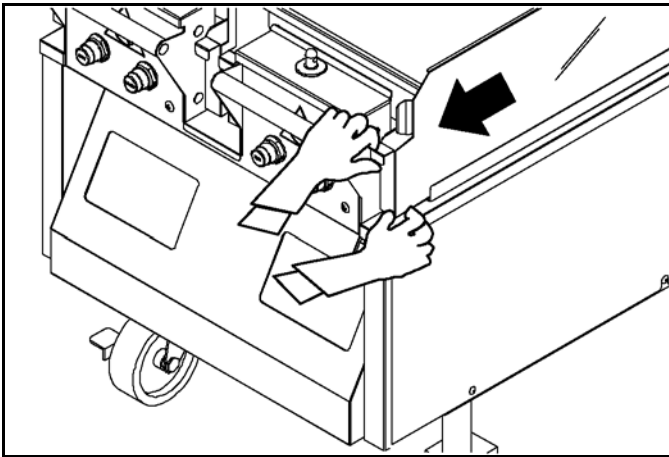

Figure-123
30. Remove and empty the grease cans and take them to the three-compartment sink. Leave them at the sink until the grill cleaning is finished. See Figure-123.